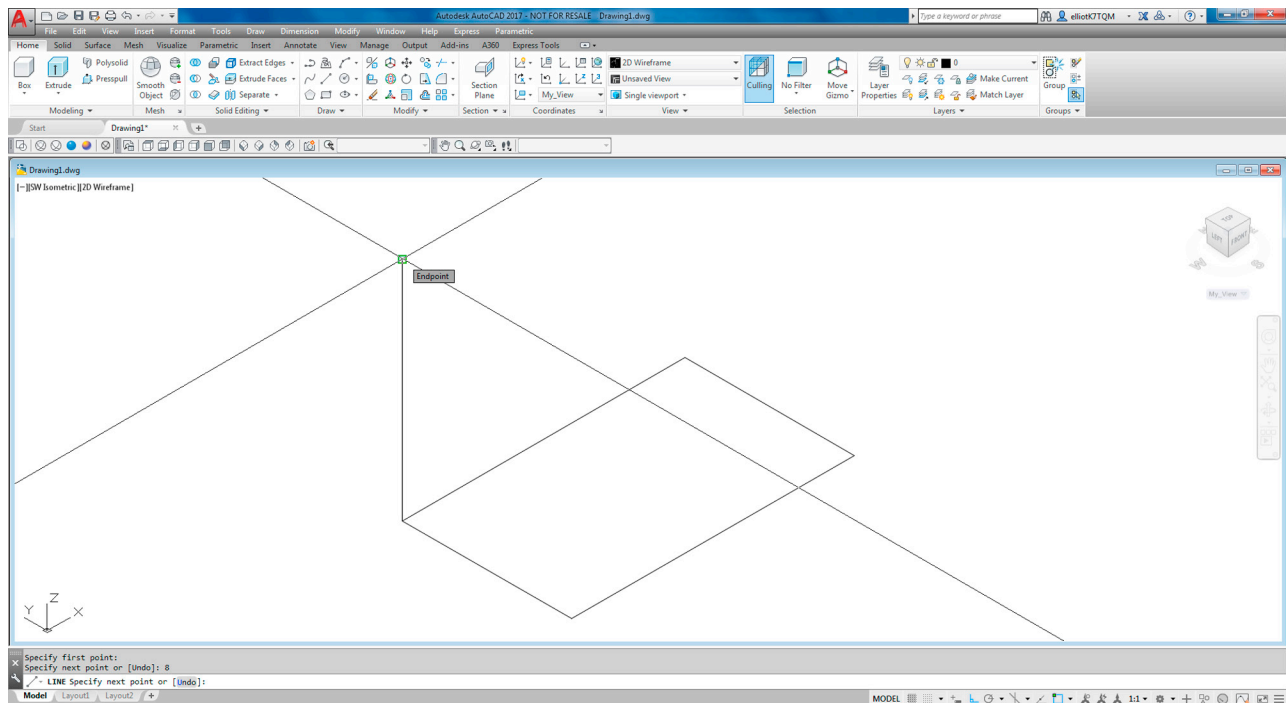

FIGURE 21.13 Method 1, Step 1.
- Step 1.** Begin the line command, with Ortho on, from any endpoint corner of your new rectangle. The line will appear and go straight up as seen in Fig. 21.13. You can make the line any random length or 8", as was done in this example.